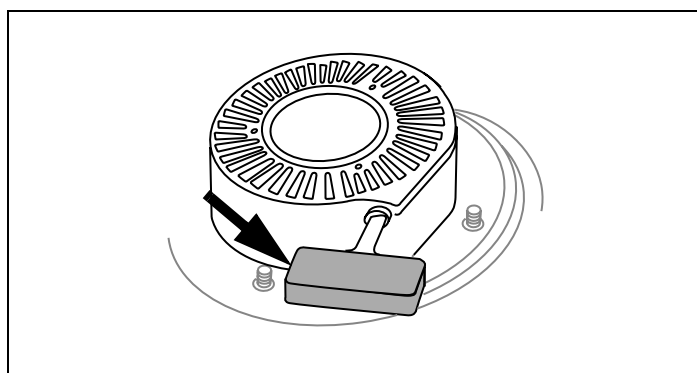

Figure 15. Recoil Starter
3. Grasp starter cord handle. See Figure 15.